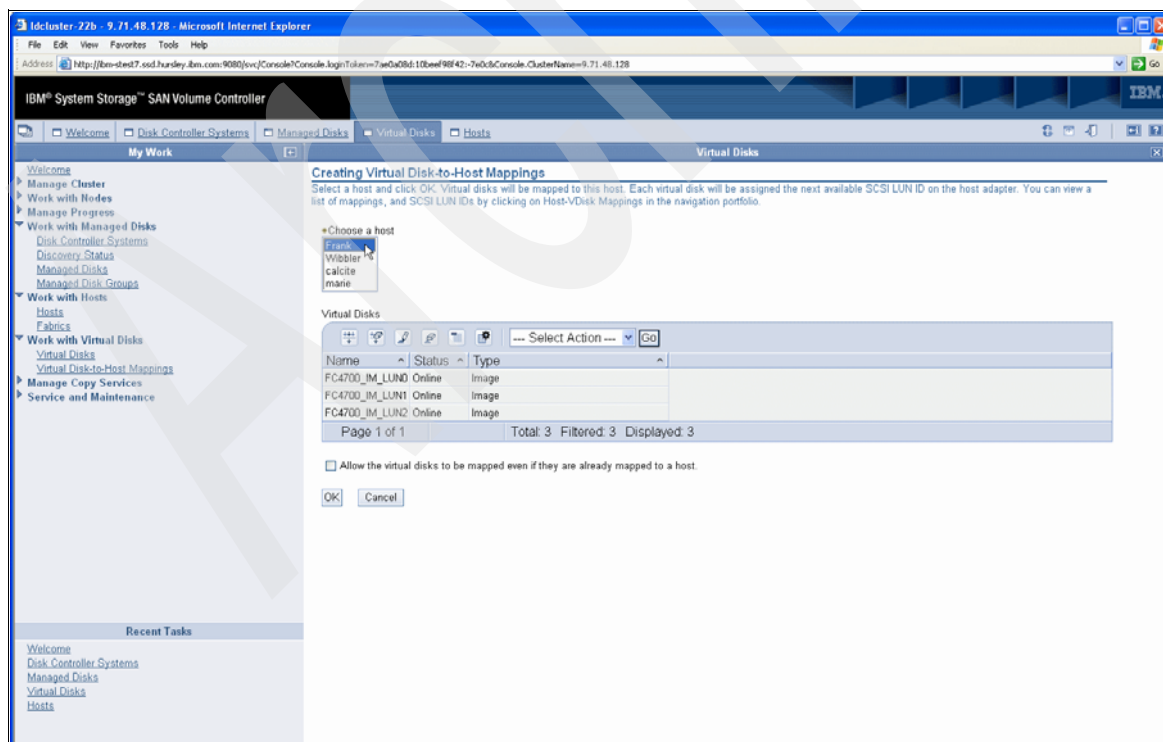

Figure 6-29 Selecting the host to map the VDisks to
- On the next panel (Figure 6-29) select the host that you want to map the VDisks to. You have already defined the host, so you should see the host name listed. Select the host and click **OK**.